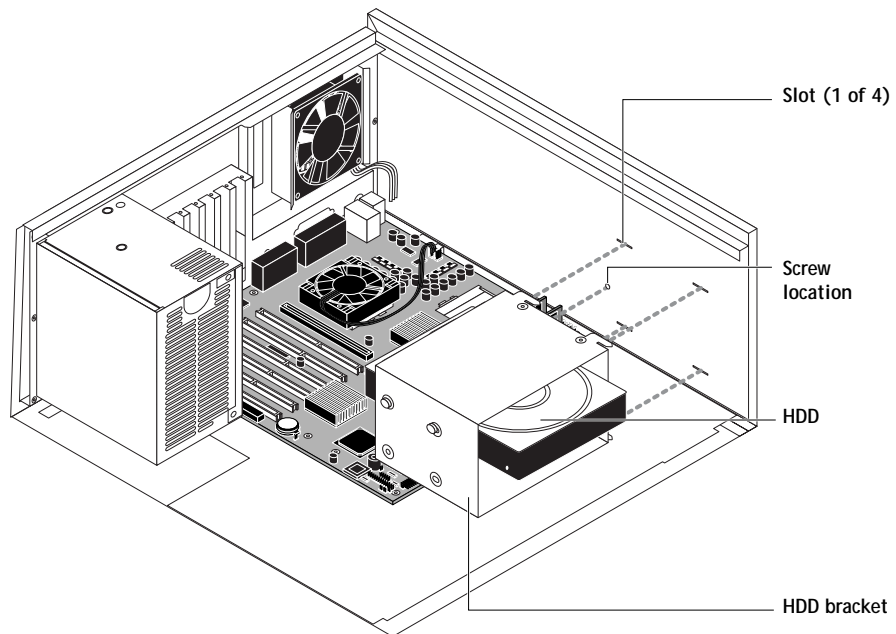

FIGURE 4-26 Removing the HDD and bracket
4. Insert the hooks of the HDD bracket into the slots on the top of the chassis and slide the bracket toward the front panel to secure it. (See Figure 4-26 on page 4-56.)